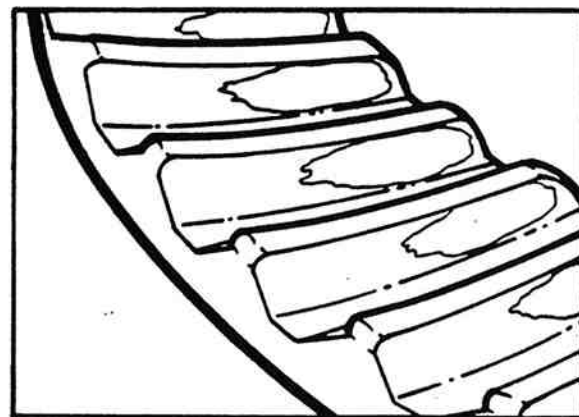

Figure 2-89. Good Hand Rolled Pattern.
4. Look at the contact patterns on the ring gear teeth. Compare the patterns to Figures 2-89, 2-90 and 2-91.
For new gear sets, the location of good hand-rolled tooth contact patterns will be toward the toe of the gear tooth and in the center between the top and bottom of the tooth (see Figure 2-89).